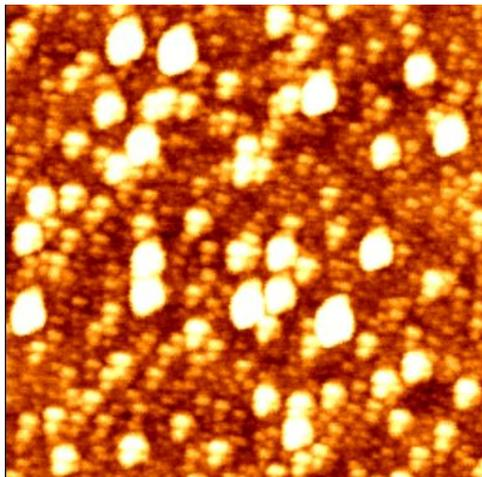

Fig. 10
- (3) In the Histogram, drag the left cursor and place it at 1nm in order to unselect the regions where the height is larger than 1nm.
- (4) In the parameters setting, select “Line” for the Scope; “X Axis” for the Orientation; “1” for the Regression Order.
- (5) Click on “Execute”.
- (6) Click on “OK”. The result is shown in Fig. 10.